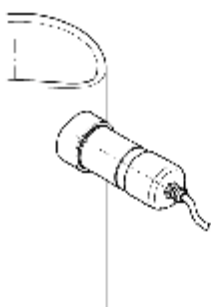

Fig. 3: Thread mounting
- screwed directly into an existing thread type R11/2" (fig. 3)